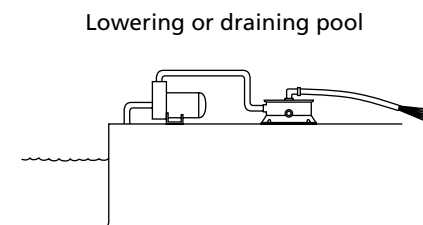

Figure 17
3. lowering water level in pool or spa/tub (See Figure 17).